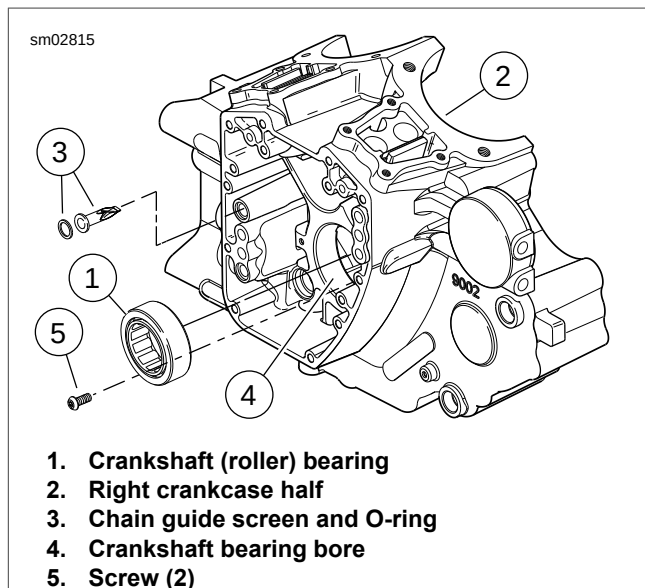

Figure 3-131. Right Main Bearing
See Figure 3-131. Remove, clean and install screen (3). Replace screen O-ring with each removal.
1. See Figure 3-131. Remove two main bearing retaining screws (5) from the cam compartment side.
10. See Figure 3-131. Install two **new** main bearing retaining screws (5) from the cam compartment side. Tighten screws to 40-70 **in-lbs** (4.5-7.9 Nm).